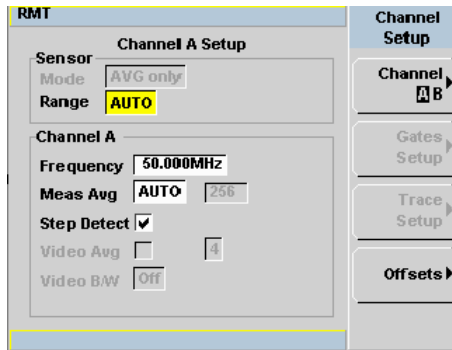

Figure 2-20 Channel Setup display
- 3 Press . The **Channel Setup** displays as shown in Figure 2-20.